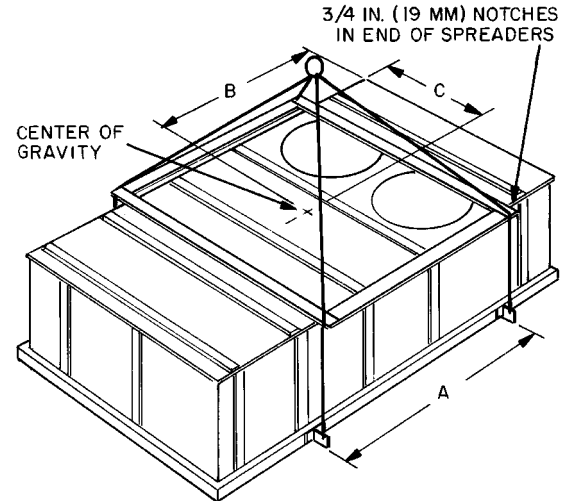

Fig. 1 — Rigging Label
Rigging and Unit Placement — Inspect unit for transportation damage. File claim with transportation agency. Do not drop unit; keep upright. Use spreader bars over unit to prevent sling or cable damage. Rollers may be used to move unit across a roof. Level by using unit frame as reference. See Fig. 1 for additional information. Unit weight is shown in Tables 1A and 1B. **These units are not designed for handling by forklift trucks.**
*Weights do not include economizer. See Fig. 1 for economizer weights.